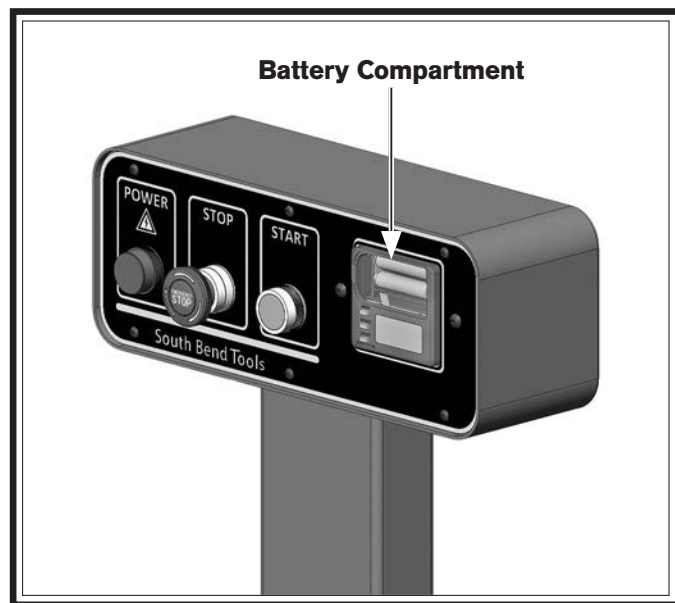

Figure 17. Digital readout battery compartment.
1. Remove cover on battery compartment (see **Figure 17**).